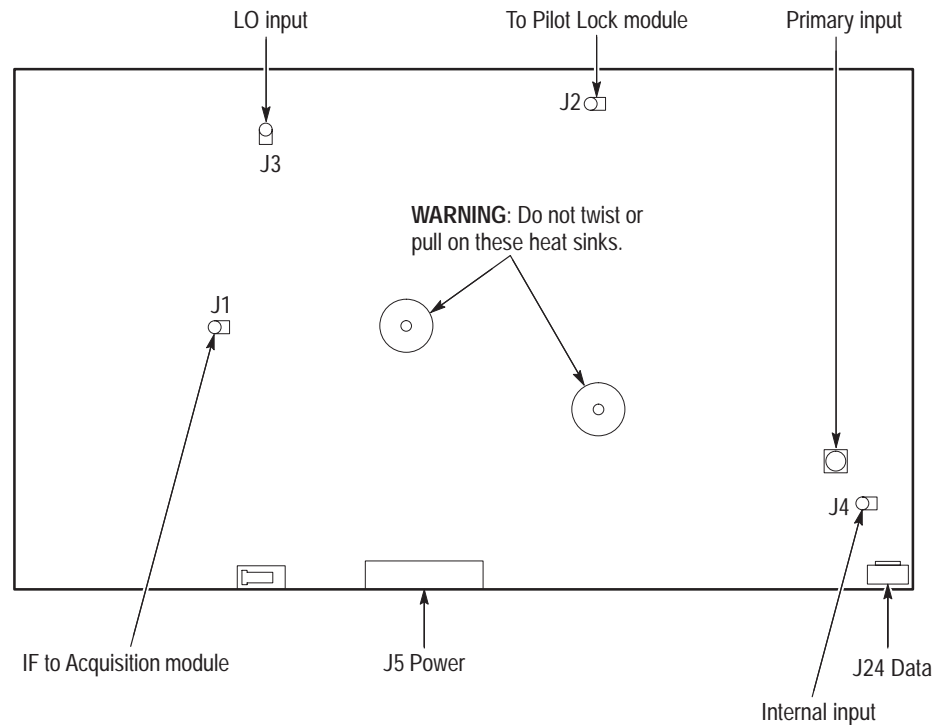

Figure 6–7: Connector locations on the down converter module
5. Route and reconnect the interconnection coaxial cables to the down converter module (see Figure 6–7 for the connector locations).